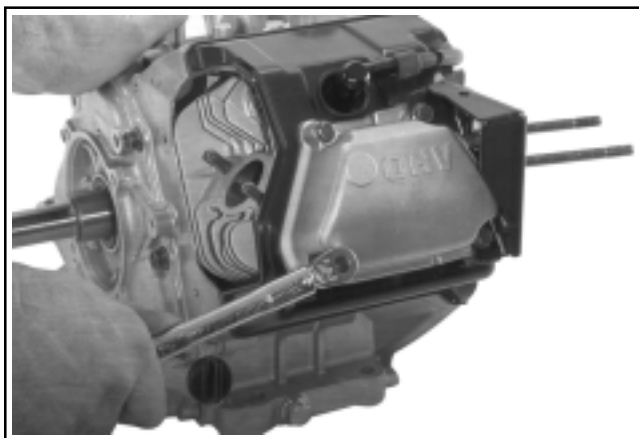

Figure 11-79. CS8.5-12. Torquing Valve Cover Screws.
**CS8.5-12:** Install the four valve cover screws. Mount the air cleaner base support bracket off the two right side valve cover locations, or to the cylinder head boss locations (based upon the model involved) using the two longer screws. Torque all the screws to **10-12 N·m (88-106 in. lb.)**. See Figure 11-79 and 11-80.